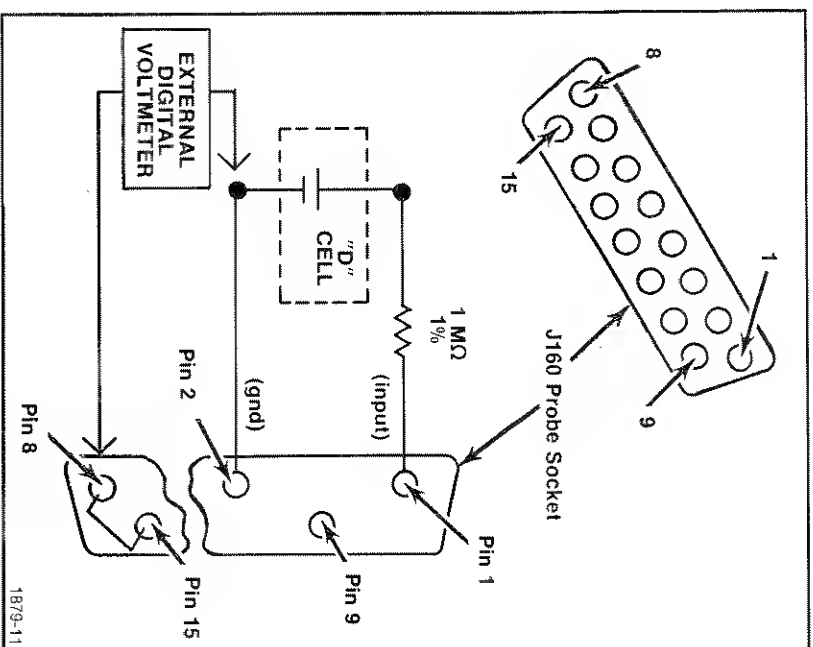

Fig. 14. Proper connection of "D" cell, resistor, and external Digital Voltmeter to J16.
6. Connect a shorting strap between pins 8 and 15 of the probe socket. See Fig. 14.
- Attach a standard "D" cell through a 1 megohm resistor to pins 1 and 2 of the probe socket as shown in Fig. 14. The shorting strap should still be connected between pins 8 and 15 of the socket. Press the X10 input sensitivity switch pushbutton.